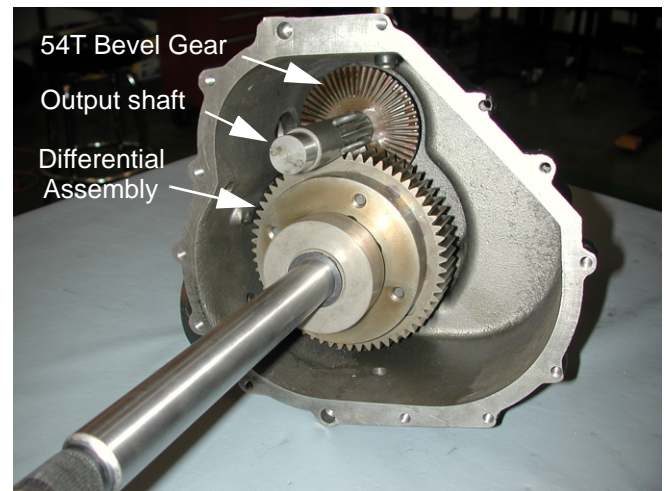

Figure 24
32. Slowly remove the output shaft, 54T bevel gear and differential assembly together. See Figure 24.